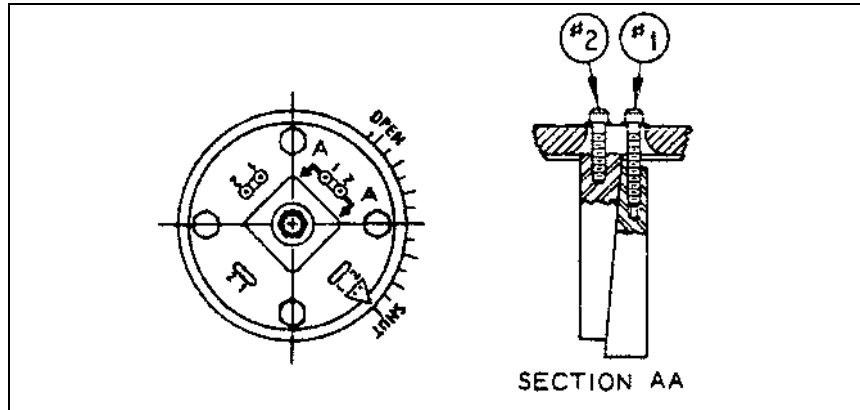

Figure 3 – 24" thru 36" Key and Lockscrew Arrangement
6. Loosen lockscrew #1 about 6 to 8 turns. Loosen lockscrews #2 about 3 turns. See Figure 3.
4. Loosen lockscrew #1 about 6 to 8 turns. Loosen lockscrews #2 about 3 turns. See Figure 3.